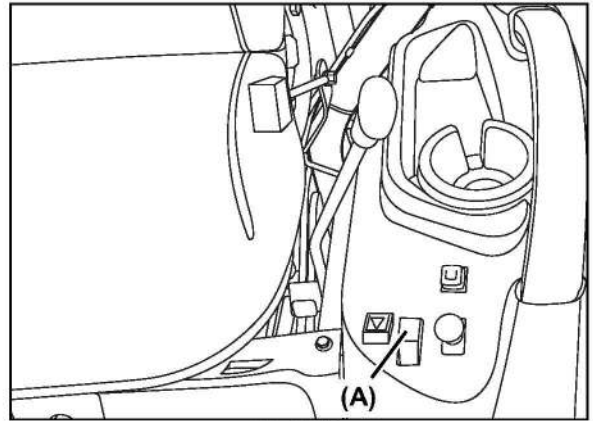

Fig 5-32
### (18) Cruise control switch (Option) (Fig 5-32)